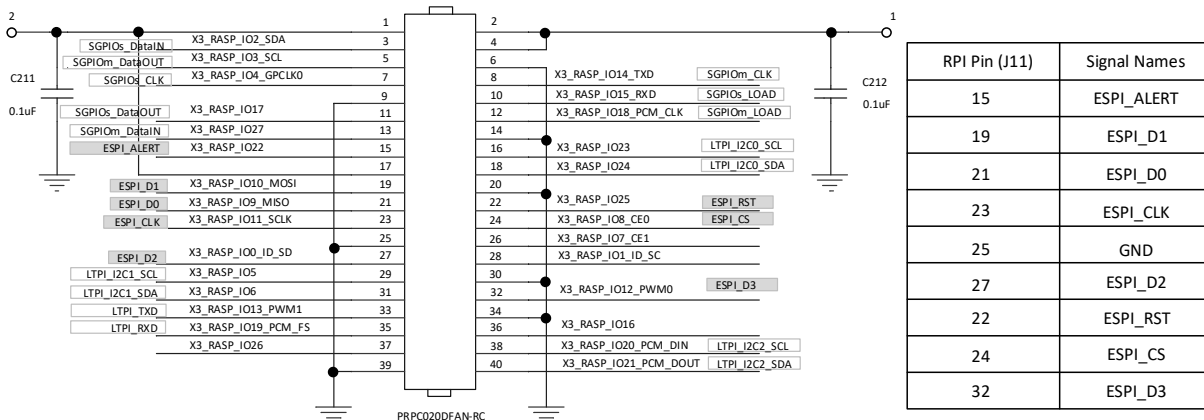

Figure 5.17. eSPI Pin Connection
1. Connect eSPI Controller to HPM hardware through RPI header (J11) as highlighted in Figure 5.17.